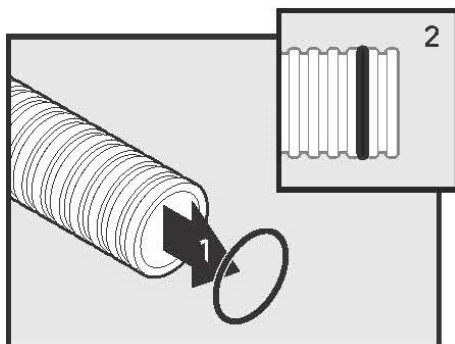

Figure 29
- B. Ensure O-ring gasket is seated in the second corrugation as shown in Figure 29.